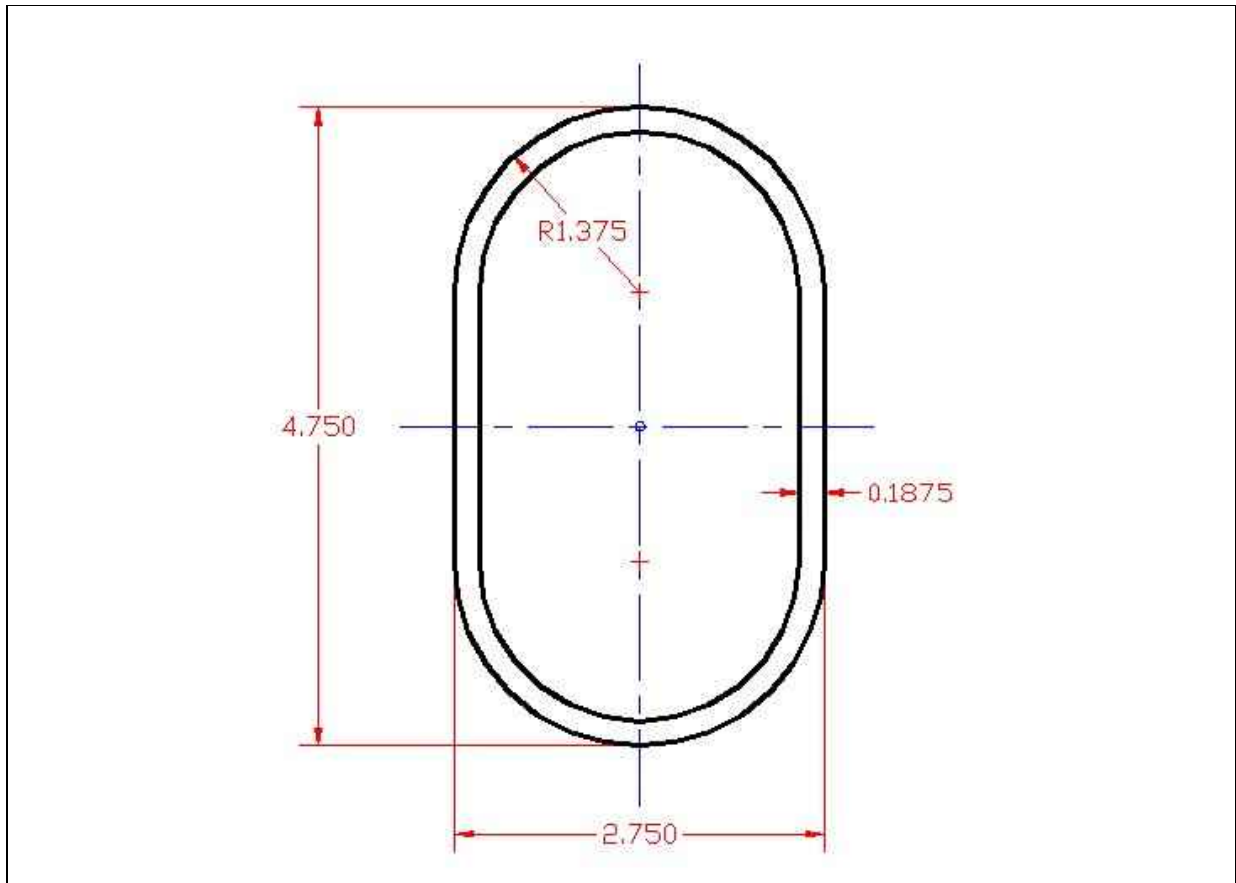

Figure 11.12 – A Custom Hollow Shape
In the next task, we will determine the Moment of Inertia of a shape that is not solid, but has an interior that we need to subtract from the outside boundary. In Figure 11.12, we will draw the exterior boundary of the custom extrusion. For our ease, we will combine all of the entities of the exterior edge to make a continuous Polyline. After completing that task, we will offset the outside perimeter $\frac{3}{16}$ or 0.1875 to the inside. The two-dimensional shape is now complete.
*** World Class CAD Challenge 10-32 * - Open a new file in your CAD program. Make a drawing of the special extrusion in Figure 11.12 with a thickness of 0.1875. Dimension the shape. Insert a border, title block and manufacturing notes. Show the center of gravity on the drawing. Include in the notes section the engineering data on the print displaying the cross sectional area, and the Moment of Inertia. Complete the drawing in 15 minutes and save the drawing as specialextrusion.dwg to maintain your World Class ranking.**